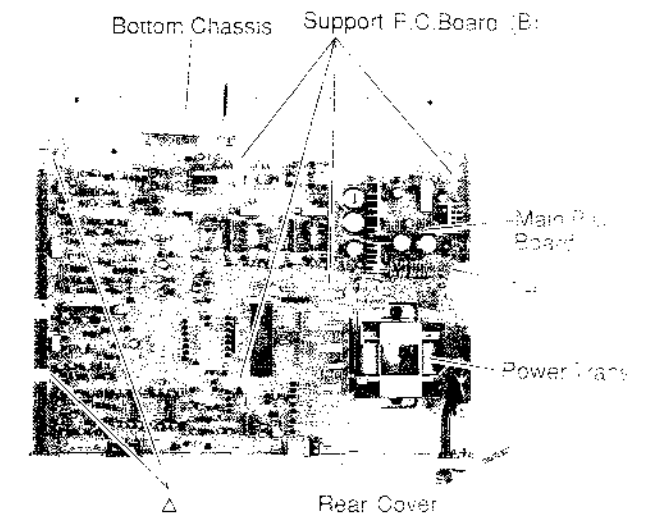

Figure 8
- (1) After removal of the Front Panel and Dolby P.C.Board, remove five screws marked "Δ" as shown in Figures 8 and 9.